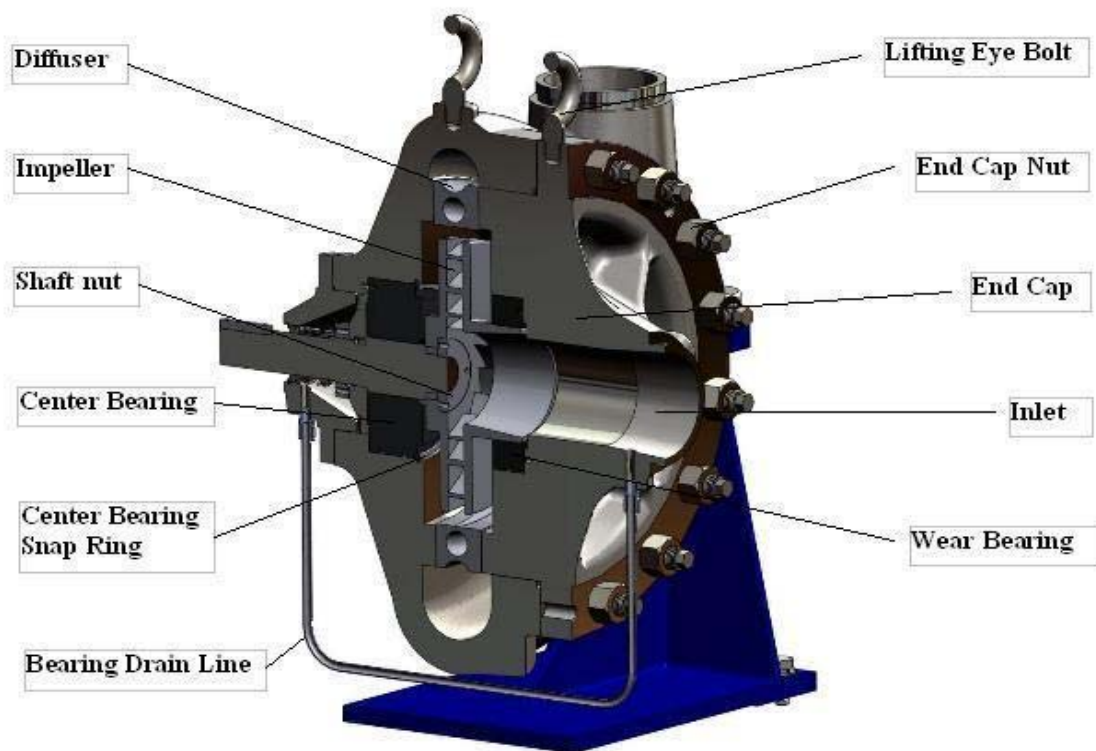

Figure 6 Cross-sectional view of the SSD pump. (Temporary)
2. Loosen end cap nuts about $\frac{1}{4}$ turn (Figure 6).
4. Unscrew the end cap nuts (16).
2. Slightly lift the impeller and the shaft, with chain or straps (Figure 6).